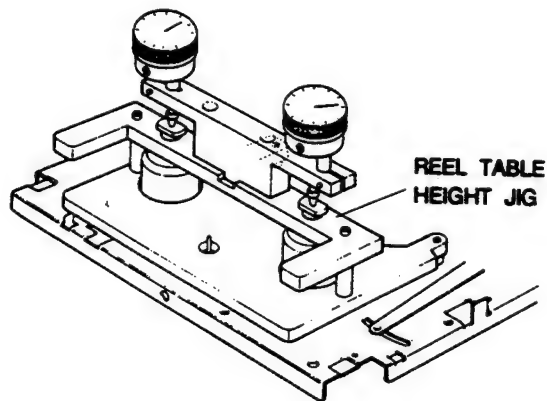

Fig. 14 Reel Disk Height
- 1. Set the jig for reel disk height to the reel disk L,R as shown in Fig. 14.